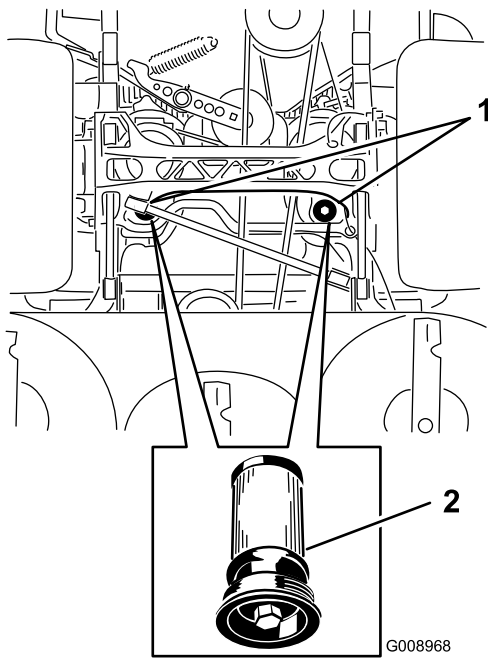

Figure 88
5. Place a drain pan under the filter, remove the old filter and wipe the surface clean (Figure 88).
6. Apply a thin coat of hydraulic oil to the rubber gasket on the replacement filter (Figure 88).